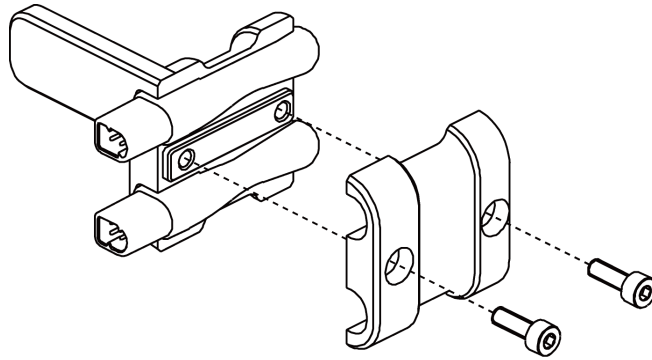
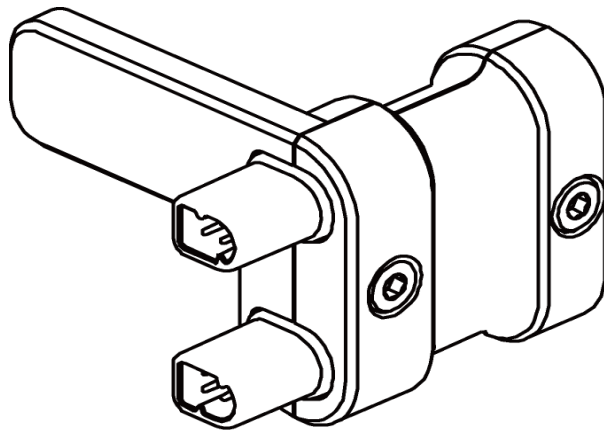
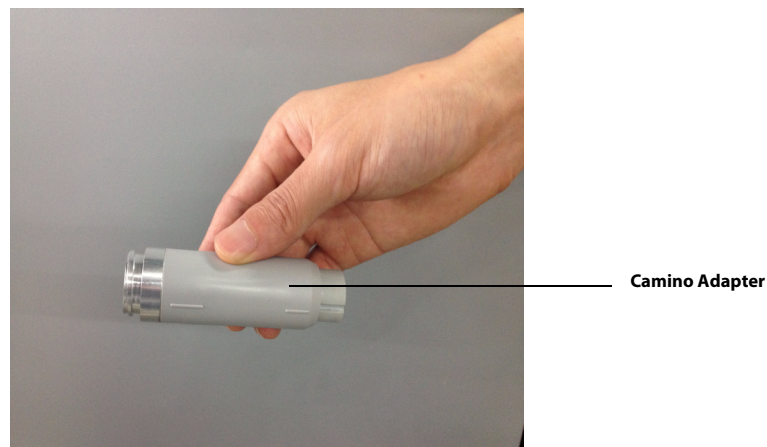

FIGURE 11-7 Camino Mounting Bracket Assembly
FIGURE 11-8 Camino Assembled Mounting Bracket
FIGURE 11-10 Camino Adapter
3. Insert the two screws into the top cover and secure them (as shown in FIGURE 11-7). Once assembled, mounting bracket resembles FIGURE 11-8.
One bedside monitor cable, the mounting bracket (shown in FIGURE 11-8) and one adapter (as shown FIGURE 11-10) are needed to obtain an ICP measurement.